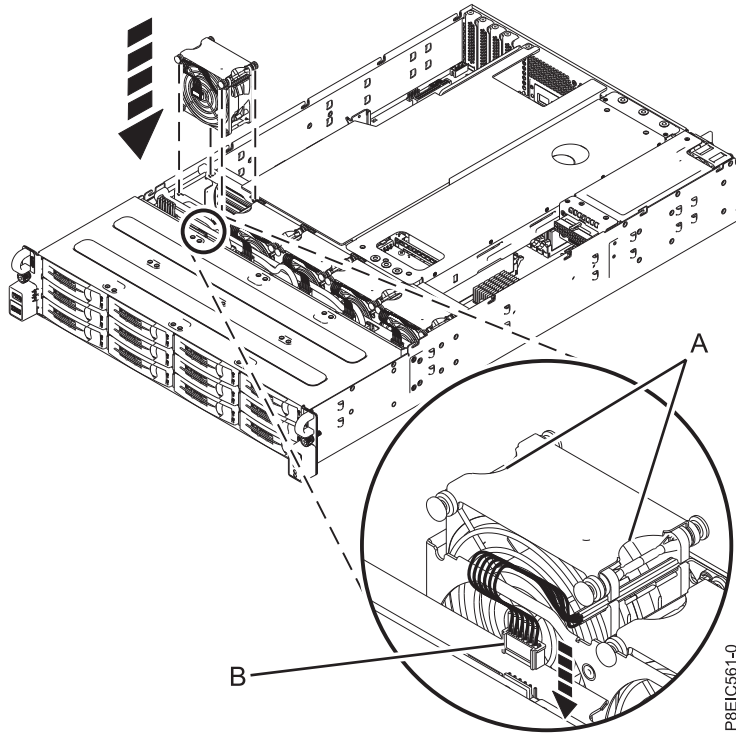

Figure 38. Replacing the fan and reconnecting the cable
1. While holding the fan at **(A)**, lower the fan into the system while you are aligning the standoffs with the slots in the system chassis, as shown in Figure 38 on page 32. Ensure that the arrow on the fan is pointing toward the rear of the system.
2. Connect the fan cable (B) to the disk drive backplane, as shown in Figure 38.